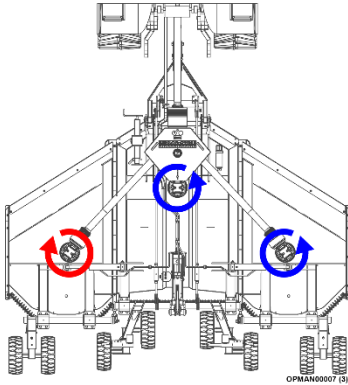
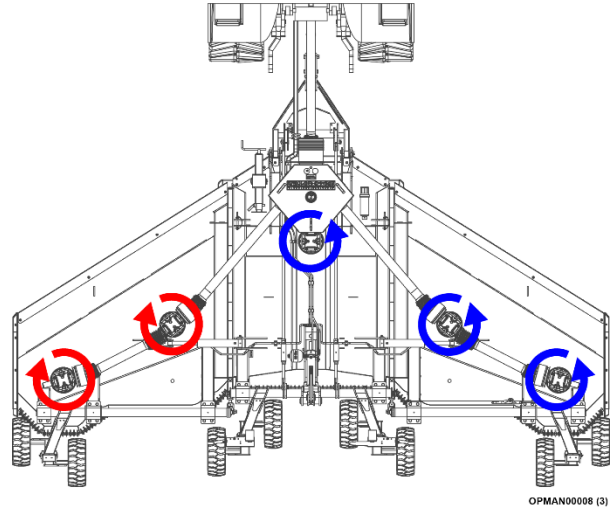

Figure 1.8
Figure 1.9
This instruction manual refers to relative rotational directions. The terms clockwise and anti-clockwise are defined by looking down at the machine from above, with the tractor being at the front; see Figure 1.8/1.9. To eliminate confusion the following definitions will be used throughout this operator's manual.
In order to create a consistent and quality cut and through-flow of material through and out of the machine, Multicut machines have anti-clockwise and clockwise rotating rotors which are in turn fitted with left-hand (LH) and right-hand (RH) blades. The rotation direction of each of the rotors is stated in Figure 1.8 for the Multicut 480 Ecoline/480 Proline and Figure 1.9 for the Multicut 650 Proline/830 Proline.